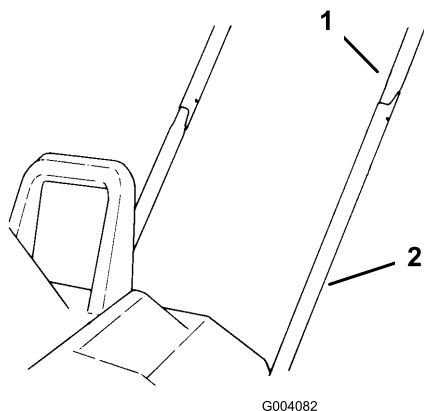

Figure 2
3. Carefully insert the right side of the upper tubing over the end of the lower right side tubing (Figure 2).
4. Carefully insert the left side of the upper tubing into the end of the lower left side tubing (Figure 2).
5. Squeeze the upper tubes together, and wiggle the upper tubes down until the mounting holes in the upper and lower tubing line up (Figure 2).